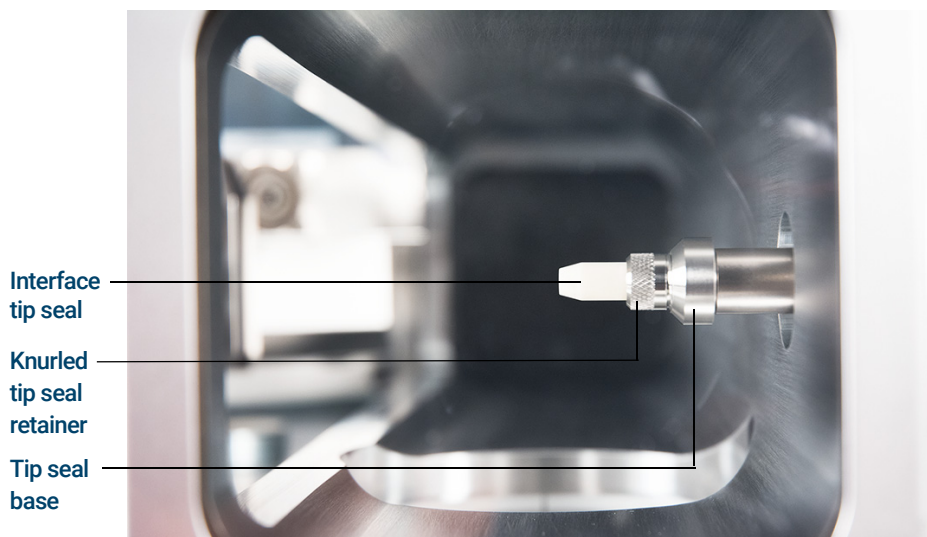

Figure 8. Interface tip seal
- 1 Verify that the CI source, EI XTR source, or HES is installed. This tip seal and its spring must not be installed when an EI SS or Inert source is installed (See **Figure 8** on page 51).